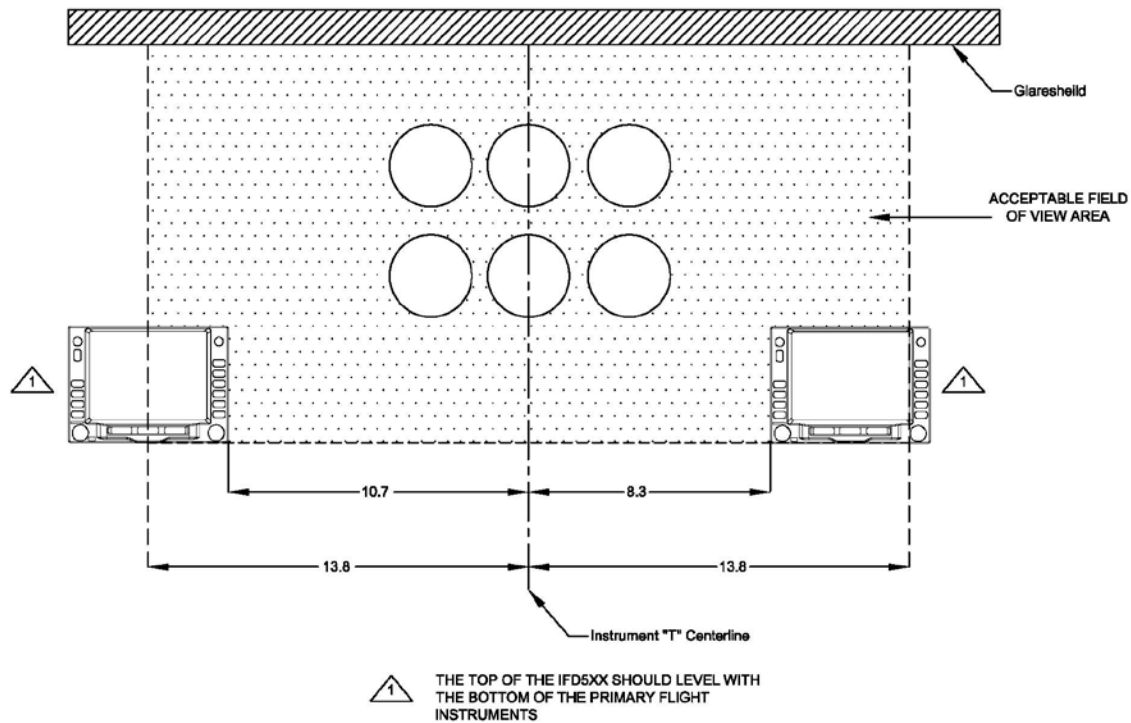
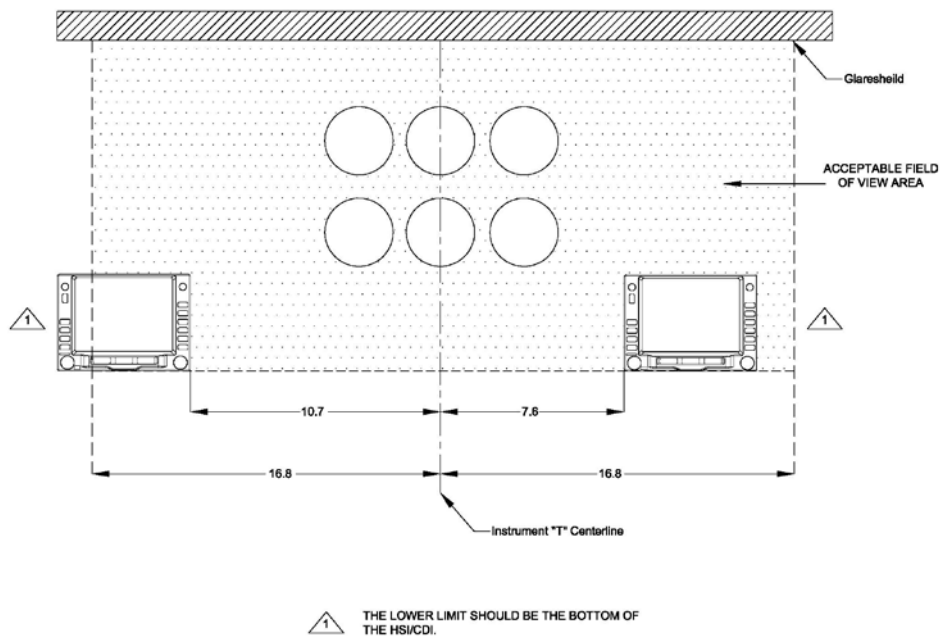

Figure 8: Field of View
Figure 9: Navigation Annunciation Field of View
The vertical field of view will be from the top of the instrument panel to the portion of the instrument panel that is immediately below the basic 'T' instruments, reference Figure 8. Note, if the existing type certified HSI/CDI/PFD is lower than the basic 'T', use that as the lower limit.
Figure 8 below indicates the acceptable field of view for the IFD5XX/4XX. If the IFD5XX/4XX can be installed in this area, remote navigation annunciation is not required. If the IFD5XX/4XX cannot be installed within the acceptable field of view, the installation must have navigation annunciations installed per Section 5.1.2.
Note: The dimensions shown in Figure 8 and Figure 9 for the IFD5XX also apply to the IFD4XX.
- If the IFD5XX/4XX is located within the acceptable field of view, as shown in Figure 8, external annunciation is not needed
- Install external annunciation lights in the acceptable field of view, as shown in Figure 9.
The navigation annunciators should be readable under all lighting conditions. The annunciators must be able to be tested prior to flight. The field of view in Figure 8 is based on $\pm 35^\circ$ from the Instrument "T" centerline at 24" aft of the panel.